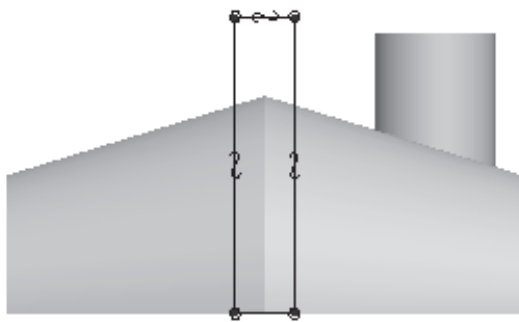

Figure 14-94 Sketch of the fill surface
- f. Create the two fill surfaces that will cap the ends of the base surface, refer to Figures 14-94 through 14-96.
5. Choose the **Create an entity from an edge** button and select the edges of the base feature. Complete the sketch as shown in Figure 14-94.